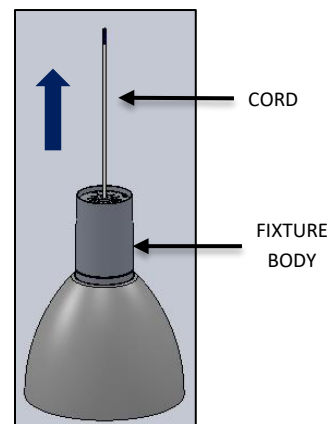

FIG. 26 - FIXTURE INSTALLATION
2. Raise the LEVO FIXTURE as shown below in FIG. 26 and pass the cord through MOUNTING BRACKET. Adjust fixture drop to desired height.